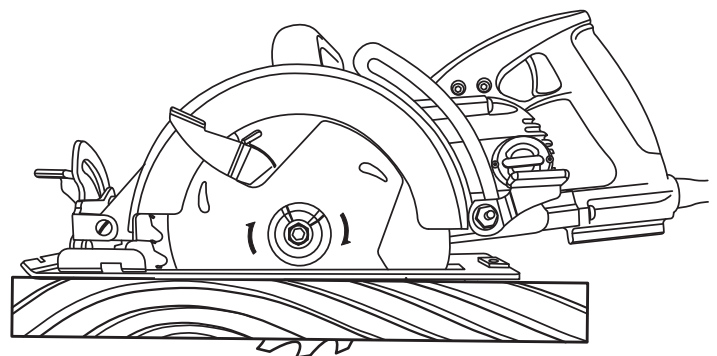

Fig. 7
- Keep the blade at the correct depth setting. The depth setting should not exceed 1/4 in. (6.4 mm) below the material being cut. See Figure 7.
- Determine the desired depth of cut. See Figure 7.